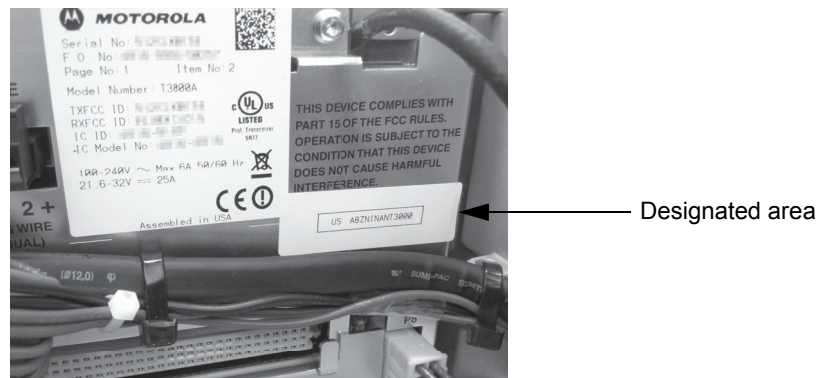

Figure 10-6 Location to affix the Part 68 label
9. Affix the provided Part 68 label to the area noted in Figure 10-6 (if not already present).